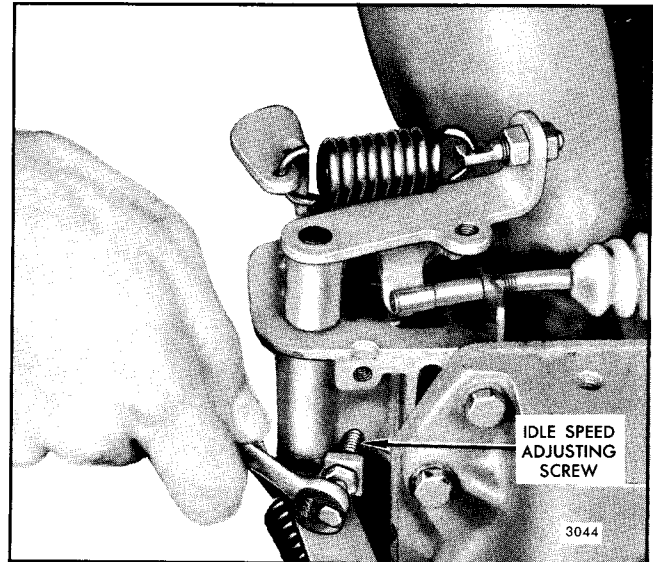

Fig. 6 - Adjusting Idle Speed
2. Loosen the locknut and adjust the maximum speed adjusting screw (Fig. 6) until the required no-load speed is obtained.
2. With the engine running at normal operating temperature, loosen the locknut and turn the idle speed adjusting screw (Fig. 6) until the engine idles at the recommended speed. The recommended idle speed is 500 rpm. However, the idle speed may vary with special engine applications.